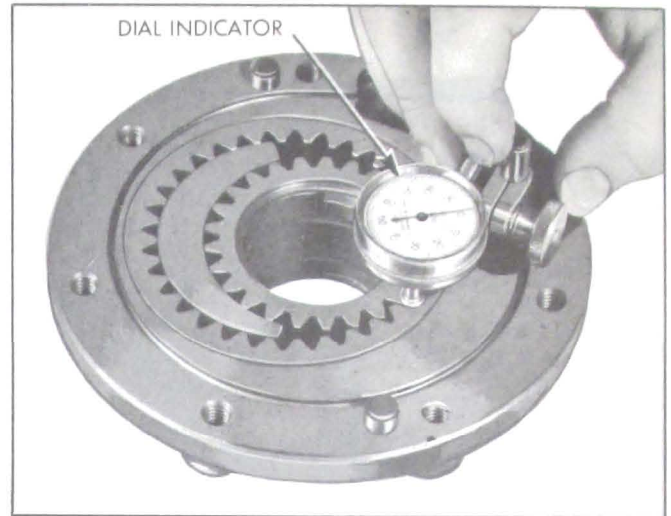

Figure 5-81—Checking End Clearance of Gears in Pump Body
6. Check pump gear end clearance by mounting dial indicator on support, J-1013. Place indicator support on pump body so that the indicator button bears on body and set indicator at zero. Then rotate the support and indicator, keeping the support on the pump body and indicate each pump gear. The indicator readings for the front pump should be .001" to .0025" and rear pump .001" to .002". See Figure 5-81.